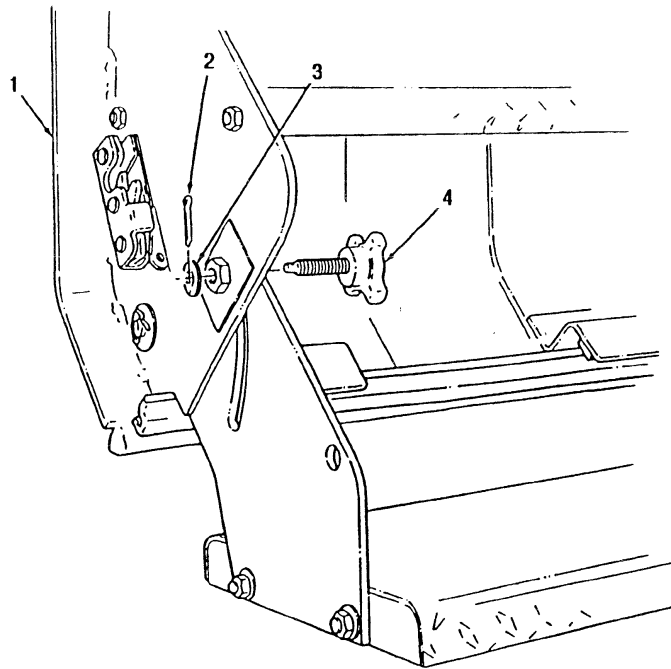

FIGURE 4-2
2. Install hand knob (4) on rear step (1) with NSN 5310-00-012-0396 washer (3) and NSN 5315-01-359-1451 cotter pin (2). (see figure 4-2)